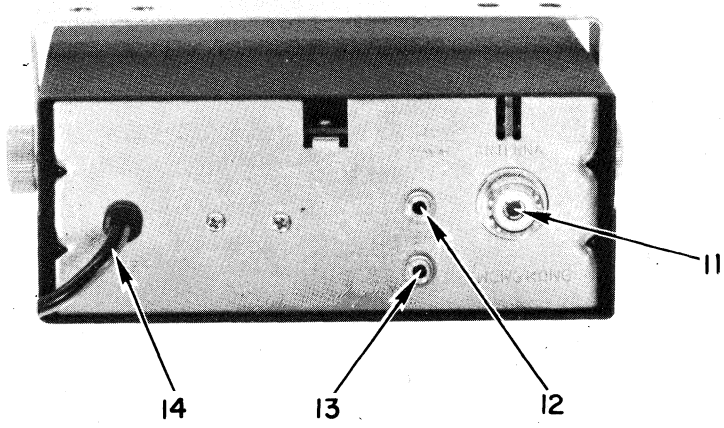

FIGURE 6, CONTROLS, INDICATORS AND CONNECTORS
A. Function of Controls, Indicators and Connectors (Fig. 6)